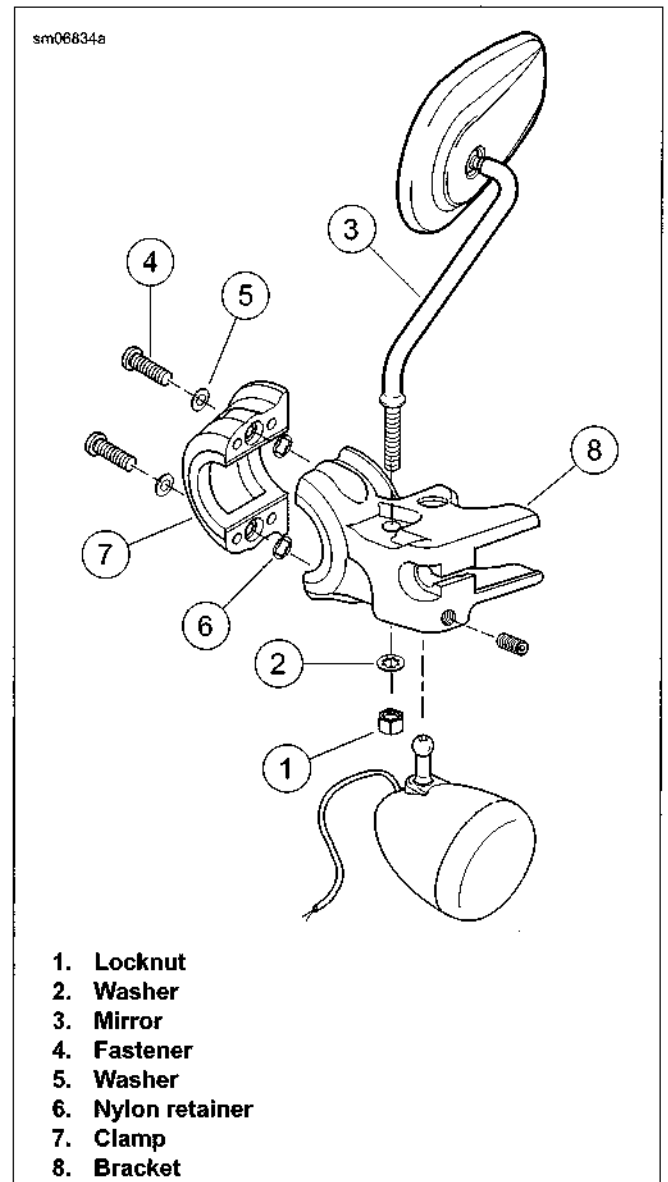

Figure 2-124. Clutch Hand Control Clamp and Bracket (typical)
2. See Figure 2-124. Remove locknut (1), lockwasher (2) and mirror (3).
3. See Figure 2-124. Loosen two screws (4) and washers (5) with nylon retainers (6) to remove clutch control clamp (7).
4. Remove clutch lever bracket (8).